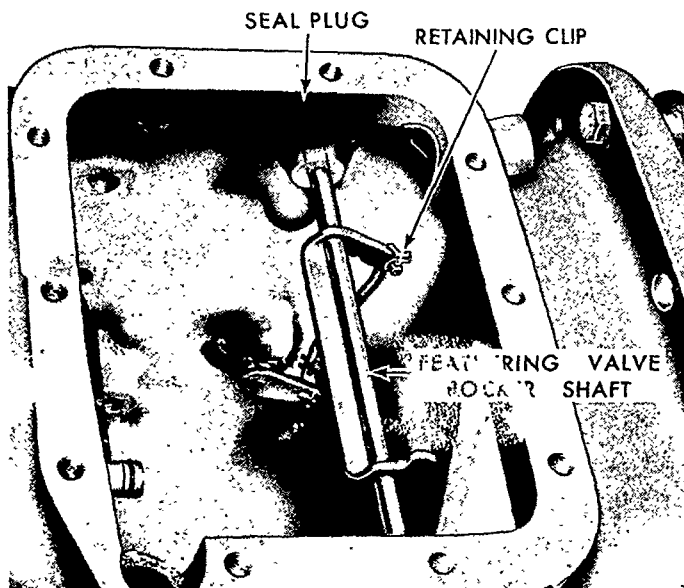

Figure 79
21. Remove the roll pin that secures the inching pedal to the shaft and remove the pedal. Remove the upper and lower cotter keys (split pins) and retaining clips from the inching pedal rod. See Figure 79. Remove the rod and pedal shaft from the case.
1. Install the feathering valve rocker shaft in the case; secure with two snap rings. Install two sealing plugs, assembled tight against the shaft. Refer to Figure 79.
2. Install the inching pedal shaft with the O-ring in the left side of the transmission case. Install the control rod with the retainer clips and cotter keys (split pins) to the feathering valve lever shaft and to the pedal shaft. See Figure 79.